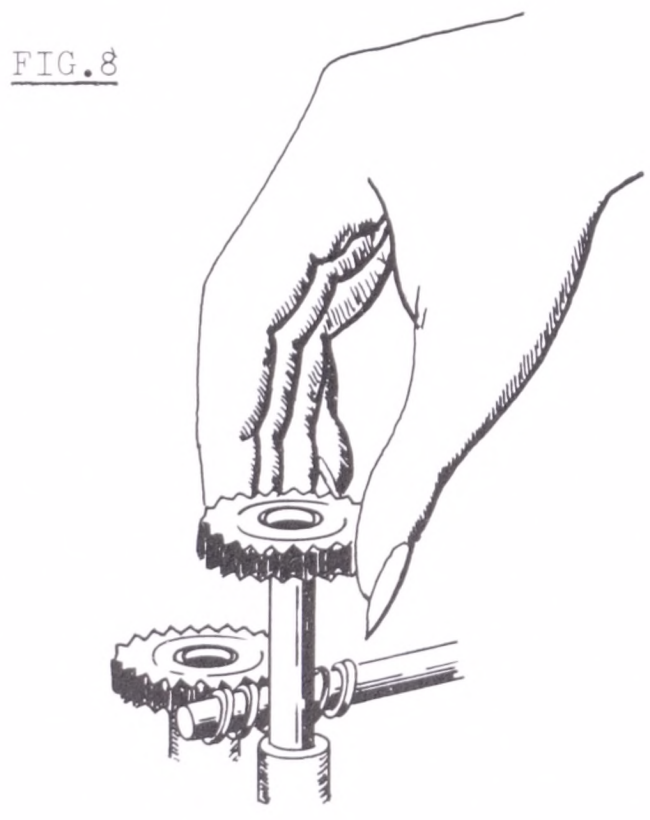

FIG. 8
6. To remove defective worm gear(s), lift the gear straight up and out of the lower case section. (*Figure 8*)